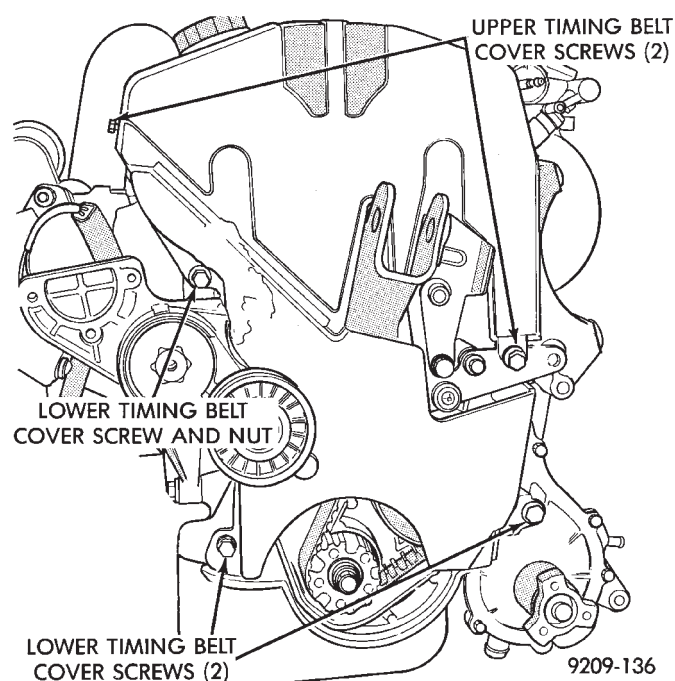
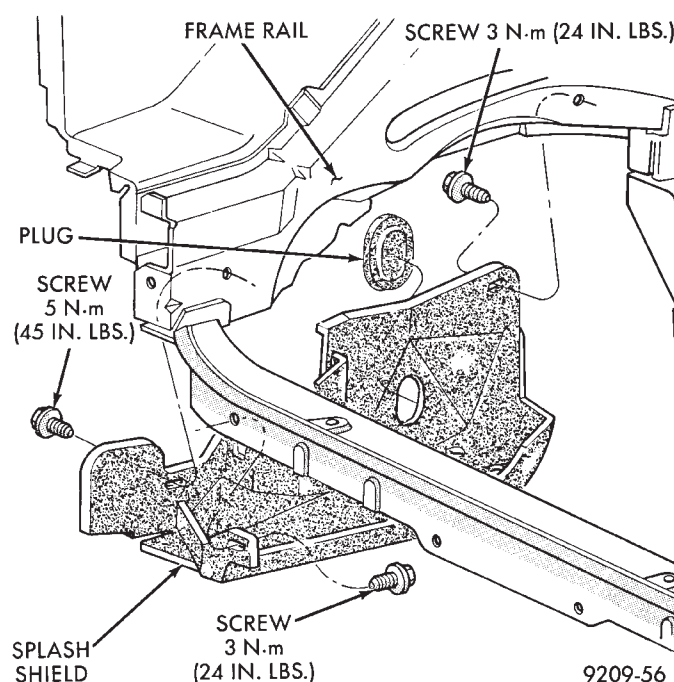

Fig. 1 Timing Belt Cover Screws
Fig. 2 Right Inner Splash Shield
(1) Remove PCV tube and upper timing belt cover screws (Fig. 1). Remove upper cover.
(2) Remove accessory drive belt. Refer to Cooling System Group 7 for procedure.
(3) Raise vehicle on a hoist and remove right wheel and inner splash shield (Fig. 2).
- (6) Remove lower timing belt cover fasteners (Fig. 1). Remove cover.
(4) Install inner splash shield and wheel (Fig. 2).
(5) Install accessory drive belt. Refer to Cooling System Group 7 for procedure.